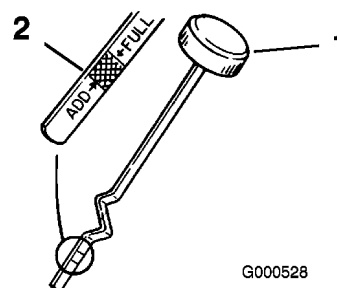

Figure 25
3. Unscrew the oil dipstick and wipe the end clean (Figure 25).